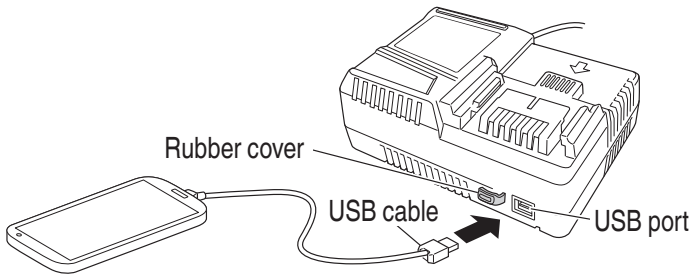

Fig. 3
(2) Connect the USB cable. (**Fig. 3**)